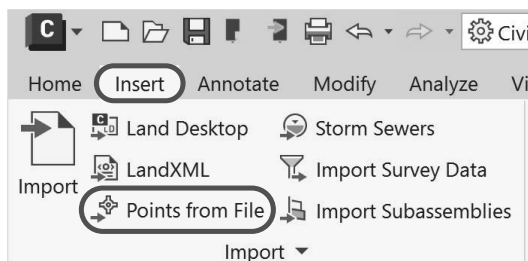

Figure 2–39
2. On the *Insert* tab, Import panel, select  (Points from File), as shown in Figure 2–39.
3. In the Import Points dialog box, do the following, as shown in Figure 2–40: